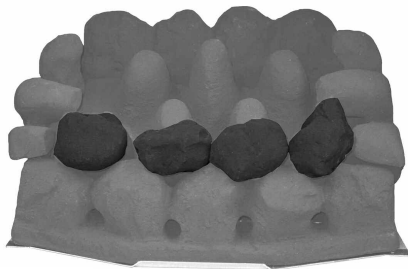

Fig. 19
5. Pick out the smallest two coals and lay to one side, lay the first row of four loose coals on top of the front coal. Ensure the back of the coals are resting on the coal bed and there are even gaps all round (Fig. 19).